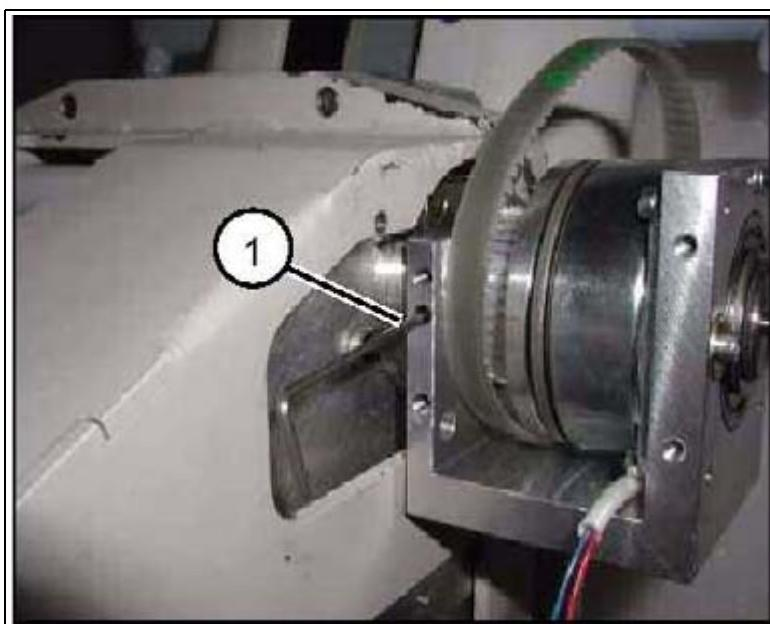

Fig. 33: Toothed belt of the orbital drive\_4
7. Remove the two setscrews of the coupling unit. \(1/Fig. 33 / p. 74\) shows the length of the left setscrew. Also remove the right setscrew (not shown).
12. Press the coupling unit against the centering disk and screw it back on with the two set-screws \(1/Fig. 33 / p. 74\).